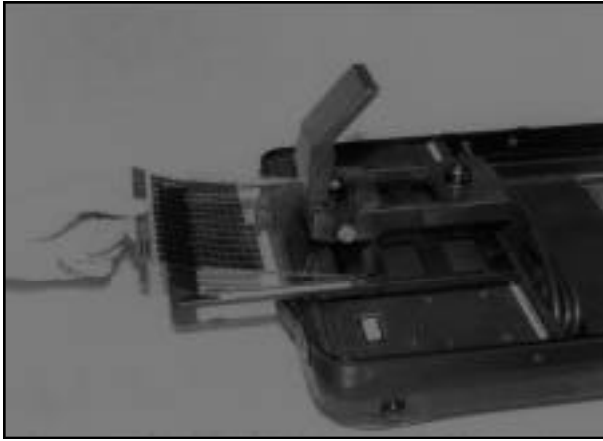

Figure 1
5. Insert microfiche or jacket between upper and lower glass. (See Figure 1).
5. Insert microfiche or jacket between upper and lower glass (See Figure 1).
4. Insert microfiche or jacket between upper and lower glass (See Figure 1).